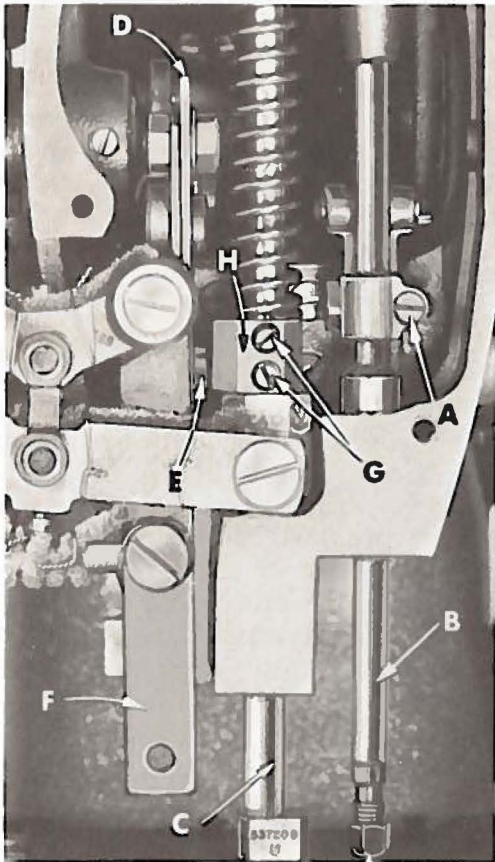
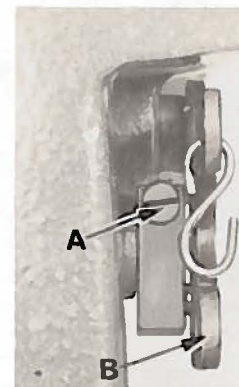

Fig. 3
Fig. 12
If adjustment is necessary, loosen screw (A, Fig. 3) and move needle bar (B) up or down as required and retighten screw (A).
If adjustment is needed, loosen tension release lever screw (A, Fig. 12), located at the back of the machine and move tension disc separator as required. Retighten screw. After adjustment there should be no binding at any point.
The height of the presser bar (C, Fig. 3) is set correctly if it is possible to remove the presser foot when the foot lifter lever (B, Fig. 12) is fully depressed. Also, there should be approximately 1/16 inch clearance between the bottom end of the slot of the lifter link (D, Fig. 3) and the stud (E) located in the upper feed bar (F) when the foot lifter lever is released and the presser foot resting on the throat plate, with the feed dog down below the throat plate.
If adjustment is necessary, turn handwheel in operating direction until the needle bar is in the low position. Loosen screws (G, Fig. 3), then, while holding presser foot down on the throat plate surface, pry up presser bar connection and guide (H) with a screwdriver to obtain the 1/16 inch setting and retighten screws.